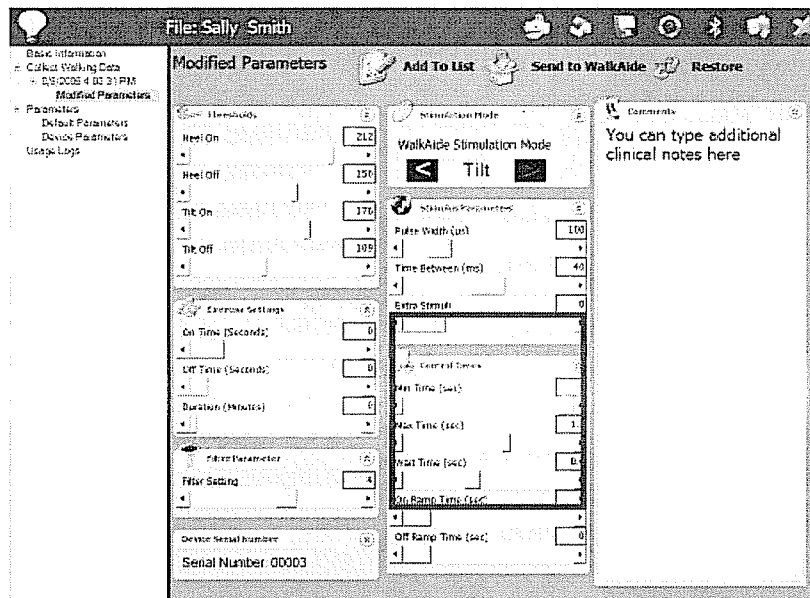

Figure 29 – Control times.
5. Control Times – These adjust the characteristics of the pulse train (Figure 29).